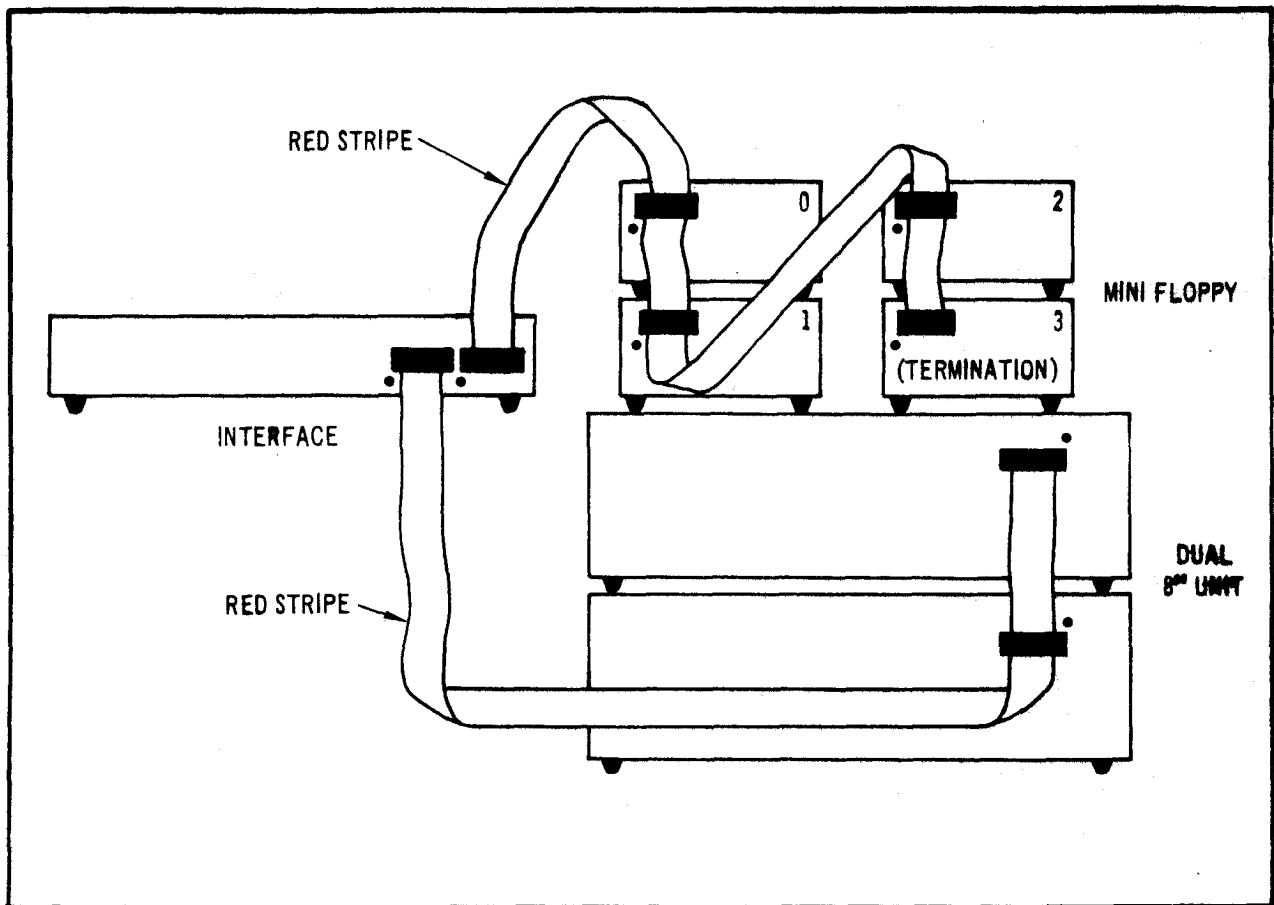

Figure 3-2. Mini and 8" Floppy Disk Connections
8. If you have purchased floppy drives place them to one side of the interface and plug them into the flat cable as shown in Figure 3-2.
9. If you are installing standard 8-inch floppies, refer to Figure 3-2 and connect the drives using the supplied flat cable. If you are using one dual-drive unit, then connection is simple. This unit should be labeled DS1/DS2/TERRMINATORS. If you are using two dual-drive units, then you must be sure to have a double connector cable and two specially configured dual-drive units. The first unit on the cable must be DS1/DS2/NO-TERRMINATORS while the second must be DS3/DS4/TERRMINATORS.